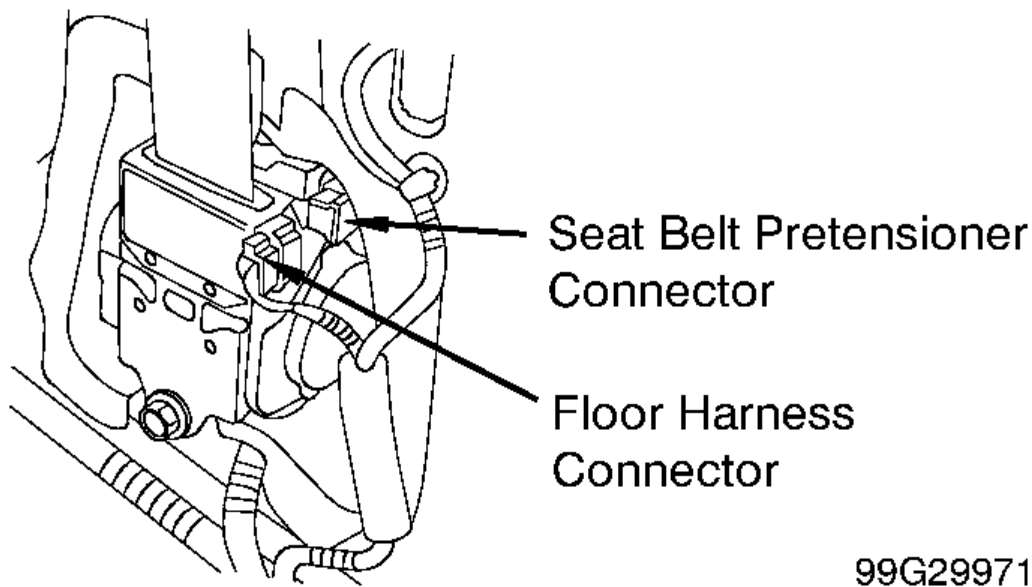

Fig. 8: Identifying Seat Belt Pretensioner Connector
4. To deploy seat belt pretensioner, remove B-pillar trim panel and disconnect seat belt pretensioner connector. See **Fig. 8** . Pull seat belt webbing out all the way and cut it off.